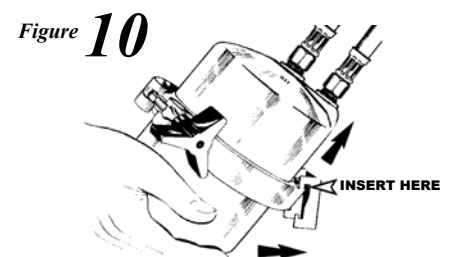

Figure 10
10. **Mount unit on the Clip Bracket** as shown (Fig. 10). A cotter pin or other pin, or wire can be inserted in the bracket, above the V-clamp to lock in place (see arrow) after unit is completely on the bracket.